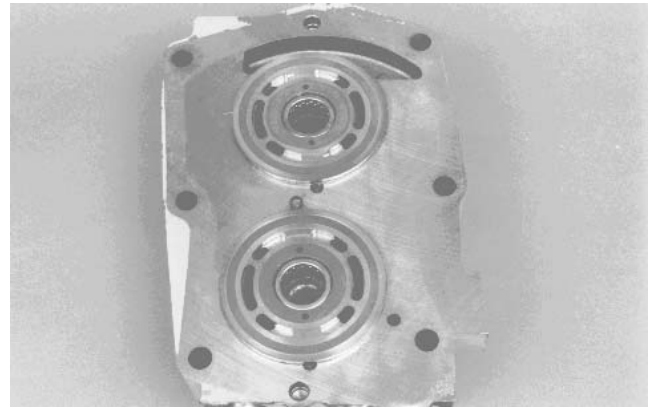

Figure 69
18. Coat back (steel side) of valve plates with petroleum jelly to hold them in position and install valve plates onto center section, with their bronze faces visible (Fig. 69). The notch on each valve plate must engage its locating pin.